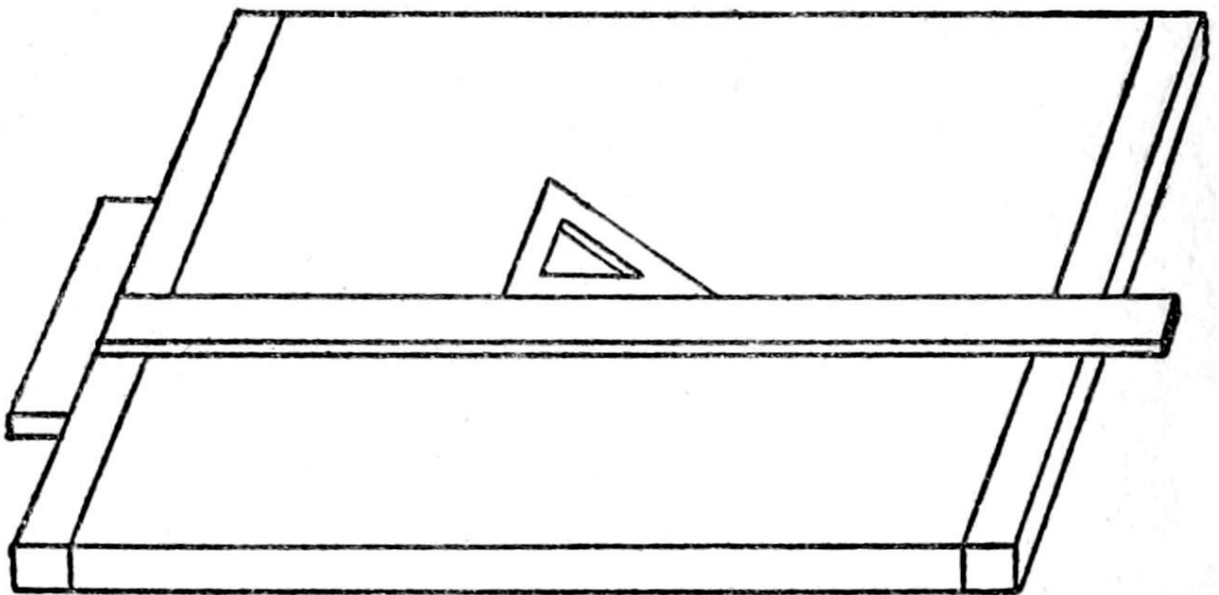

FIG. 47. THE T SQUARE AND TRIANGLE ON THE DRAWING BOARD
The T square is laid with the *head*, that is the short thick piece, against the left hand edge of the drawing board which brings the *blade*, that is the long thin piece flat on and across the board. The triangle is placed against the straight edge. The triangle is laid on the board with one of its edges against the blade of the T square as shown in Fig. 47.
(2) Take a sheet of white paper exactly $5\frac{1}{8}$ inches wide and 10 inches long and draw two diagonal lines from corner to corner so that they will cross each other, then draw a vertical line through the middle and a horizontal line near the bottom. The diagonal and horizontal lines will be 30 degrees apart.
(3) By laying a 30 degree triangle on your T square and drawing a line along the 30 degree side of it as shown in Fig. 47; and (4) by laying off 30 degree lines with a protractor.